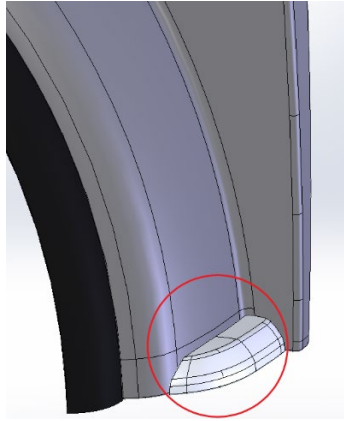

Figure 1 – OEM Fender Support Circled
1. Loosen the OEM fender support on the truck (see Figure 1).